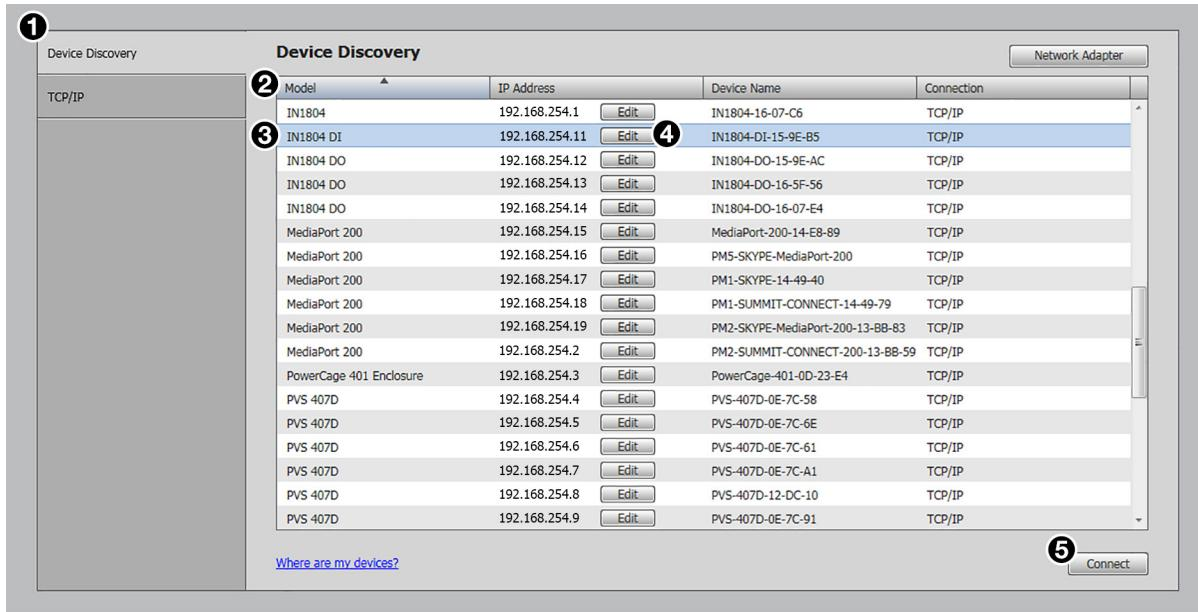
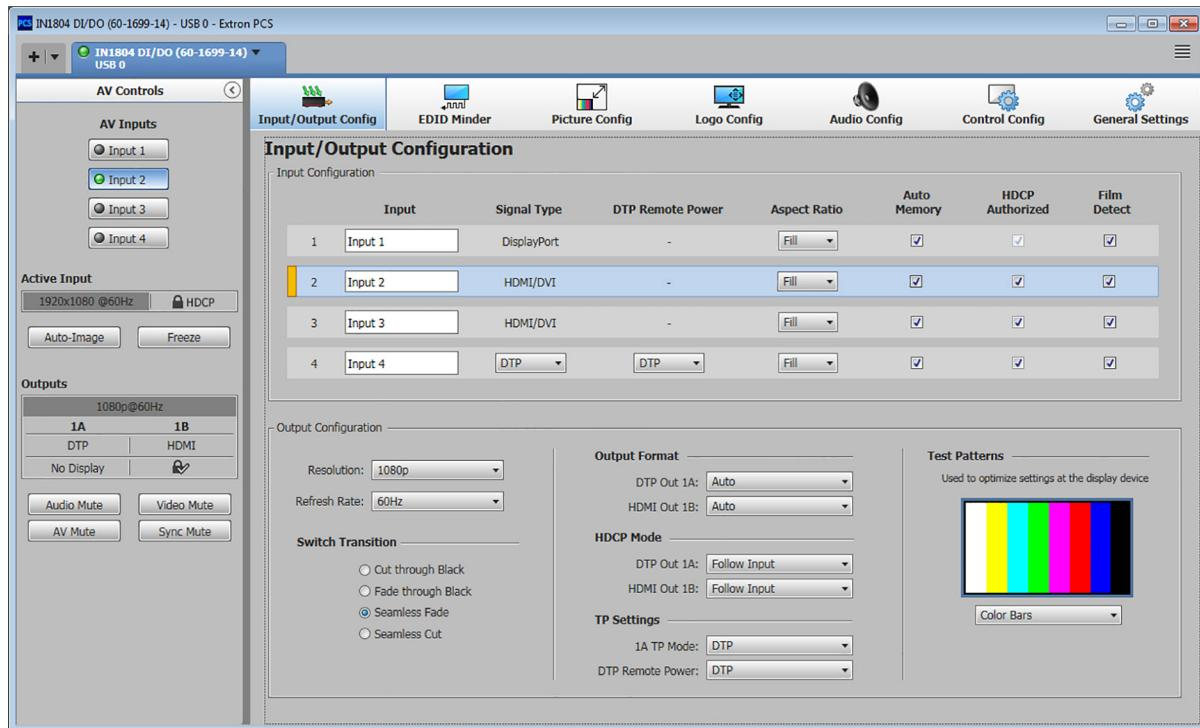

Figure 37. Device Discovery Screen
Figure 41. IN1804 DI/DO Main Window
1. Click the **Device Discovery** tab (see figure 37, ①).
2. Click the desired column heading (②) to sort it in ascending or descending order.
When you select a device on the **Device Discovery** screen (see figure 37 on page 84), the IN1804 main screen opens. All configuration tasks are initiated from this screen. Figure 41 shows an example of an IN1804 DI/DO main screen.